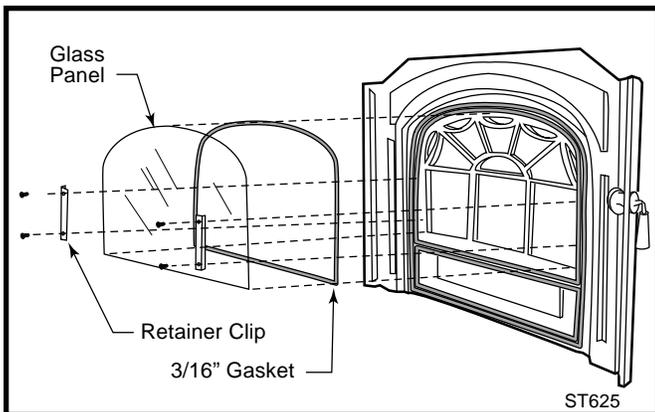

Fig. 36 Glass replacement.
- Open the door and carefully remove the glass by removing the two clips (one per side) that hold the glass panel against the gasket in the arched door opening. Each clip is held in place with two Phillips truss-head machine screws. (Fig. 36)